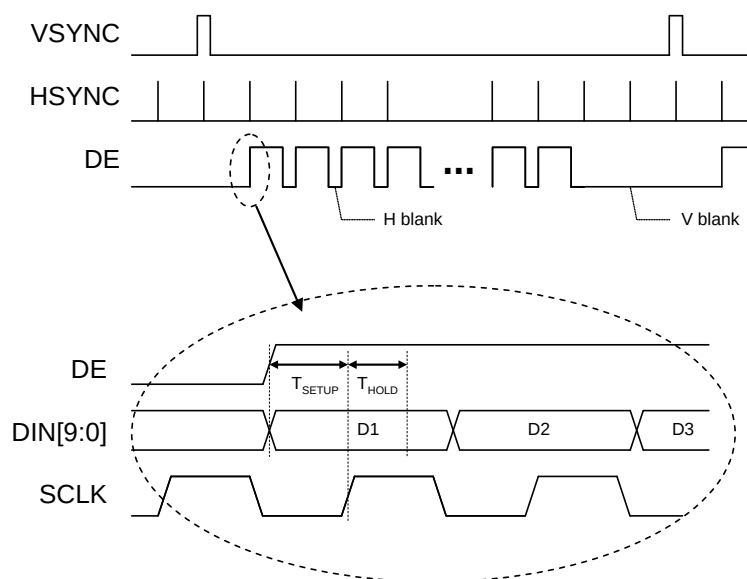

Figure 11 : Input Data timing diagram.
The 24-bit digital input port is comprised of three 8-bit data busses that make up the RGB data inputs. Separate synchronization signals (VSYNC and HSYNC) and the pixel clock (SCLK) are to be provided by the external video source. The data valid signal (DE) is used to signal the start of loading a row of data into the internal line memory. The timing diagram for the input data bus is shown in Figure 11.